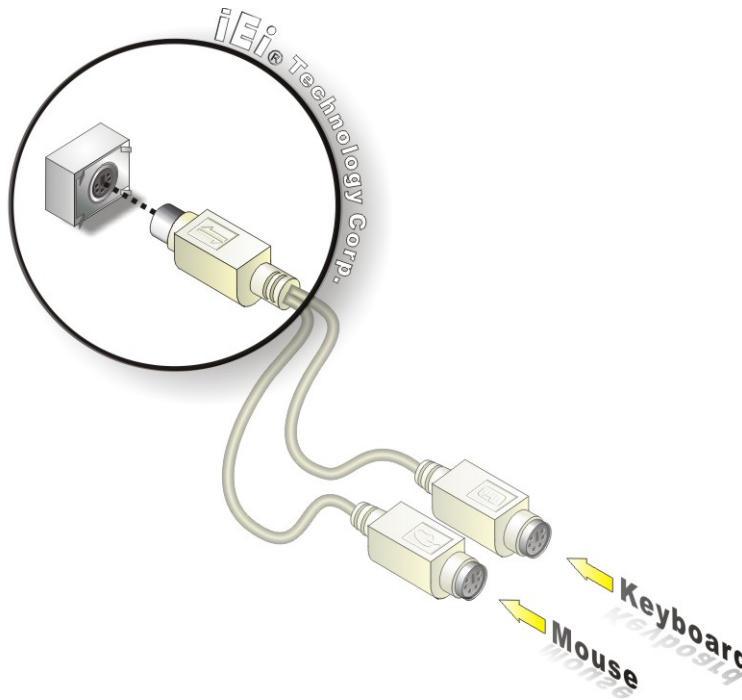

Figure 4-19: PS/2 Keyboard/Mouse Connector
Step 2: Insert the keyboard/mouse connector. Insert the PS/2 connector on the end of the PS/2 y-cable into the external PS/2 connector. See **Figure 4-19**.